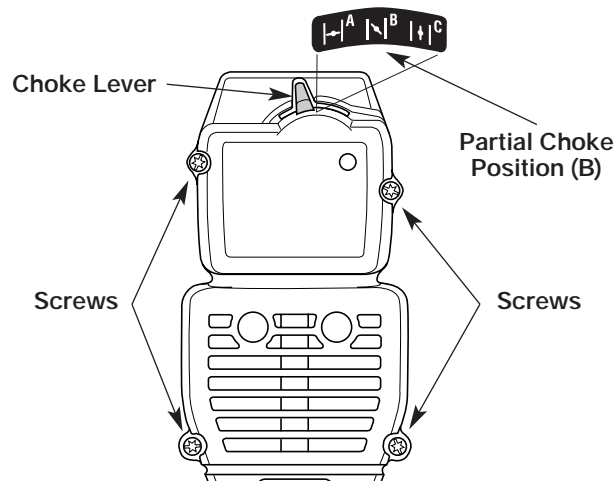

Figure 21
1. Place the choke lever in the **PARTIAL** choke position (B).
NOTE: The choke lever must be in the **PARTIAL** choke position (B) to remove the air filter/ muffler cover. See Figure 21.
2. Remove the four (4) screws securing the air filter/ muffler cover. See Figure 21. Use a flat blade or T20 Torx bit screwdriver.
NOTE: The choke lever must be in the **PARTIAL** choke position (B) to install the air filter/muffer cover. See Figure 21.
2. Insert the four (4) screws into the holes in the air filter/muffer cover and tighten. See Figure 21. **Do not over tighten.**